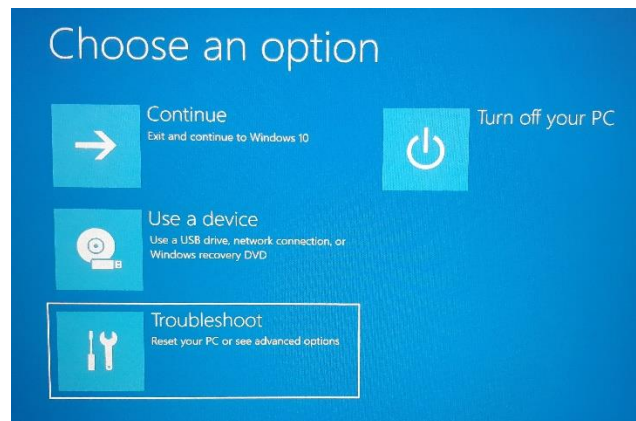

Figure 5.11. Troubleshoot Option
3. When the **Choose an option** screen appears as shown in Figure 5.11, release the Shift key.